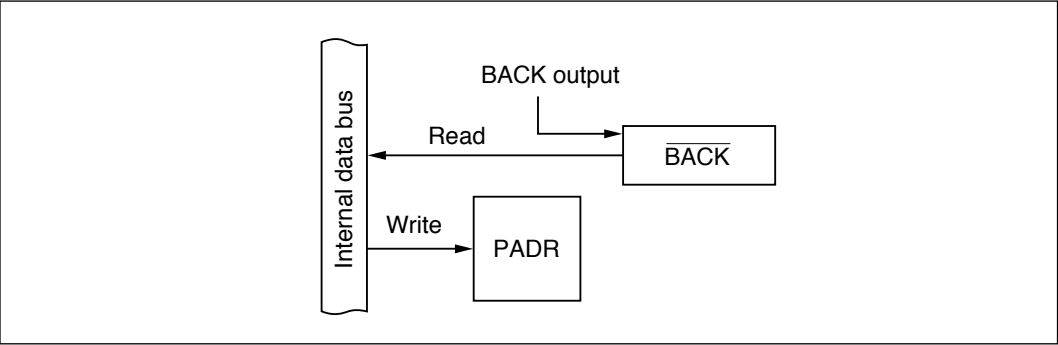

Figure 9-64 $\overline{\text{BACK}}$ Output Pin (Modes 1 to 6)
(4) **$\overline{\text{BACK}}$ Pin (PA_6 : Modes 1 to 6):** Figure 9-64 shows a block diagram illustrating the $\overline{\text{BACK}}$ function. Table 9-47 indicates register read/write data. When PA_6 is used for $\overline{\text{BACK}}$ output, the value written in the port A data register (PADR) has no effect. When read, PADR returns the level of the $\overline{\text{BACK}}$ signal.